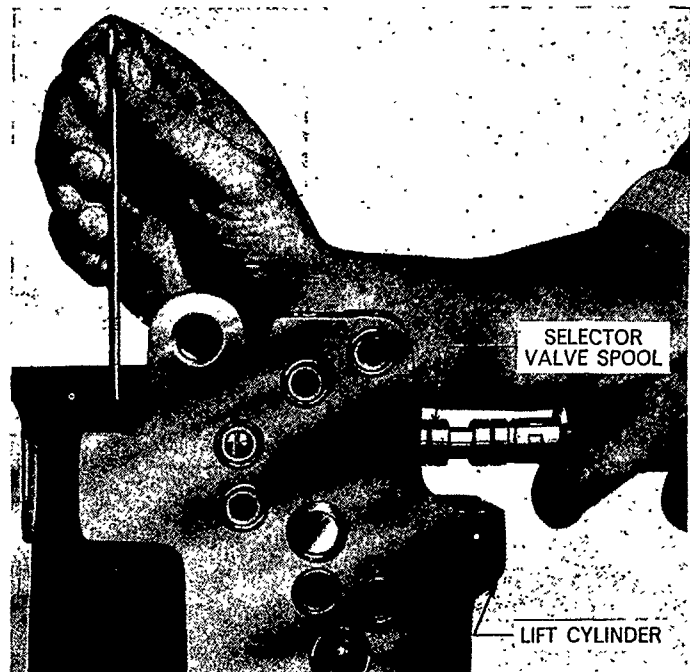

Figure 71
8. Install the selector valve spring and ball into the hole provided in the selector valve bore. Depress the ball and spring with a suitable thin rod, at the same time inserting the selector valve spool until the ball locates in one of the grooves at the end of the spool, Figure 71.